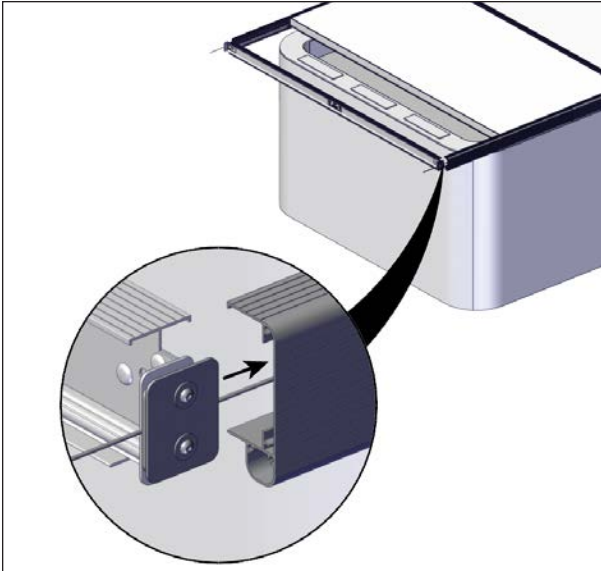

FIGURE 40: I-BEAM INSTALLATION
- Slide an I-Beam with the short I to C connection plates in the C-channels with the bent portion pointing outwards, see Figure 40.